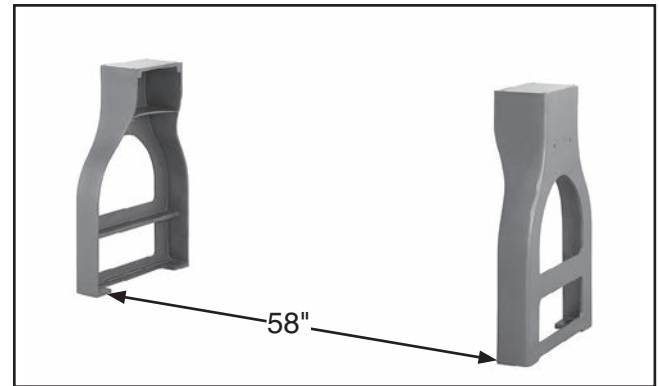

Figure 11. Supporting legs.
1. Position stand legs upright approximately 58" apart, and get them reasonably aligned (see **Figure 11**).